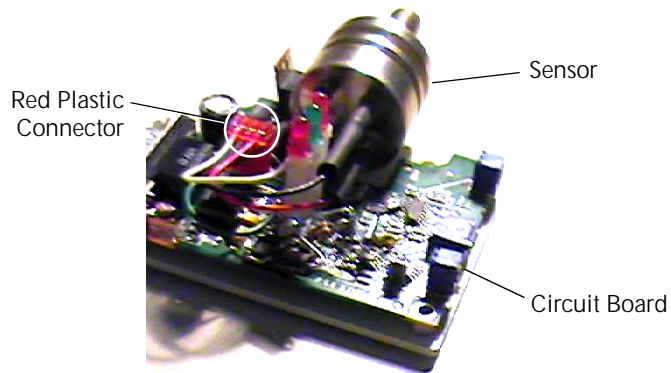

Figure 15 Red Connector and Sensor
5. Locate and unplug the red plastic connector that attaches the cable from the sensor to the circuit board, as shown in Figure 15.
- Locate the longer of the cover screws and insert it in the lower left position as shown in Figure 15 on page 22 with the vacuum port facing upward.